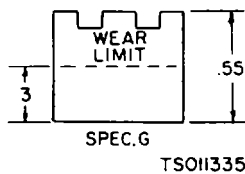

Figure 6-2. Brush Wear Limits
(7) Slide off intermediate bearing assembly (15) and washer (16) from armature shaft.
(8) Remove four flat headscrews (19) and terminal stud and washers (20) holding coil assembly (21) to frame (22).
c. Brush and Spring Repairs (fig. 6-2).
(1) When brushes are worn more than 0.3 inch (. 762cm), replace them. Check to see that the brushes move smoothly in the brush holder.